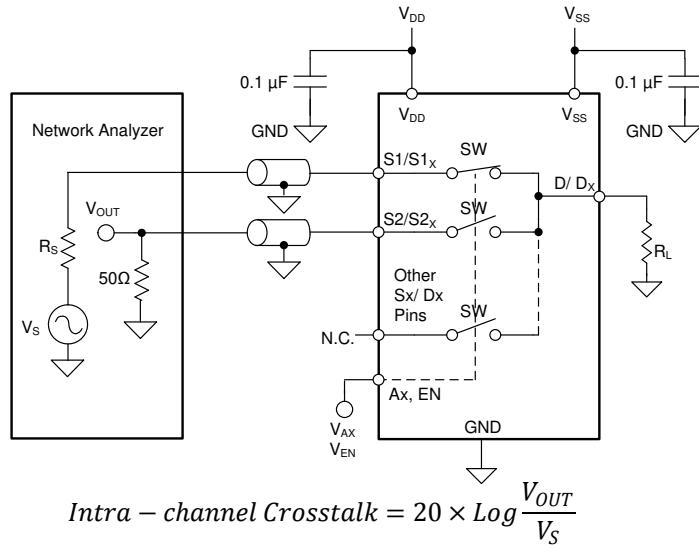

图 8-9. Intra-channel Crosstalk Measurement Setup
1. Intra-channel crosstalk ($X_{TALK(INTER)}$): the voltage at the source pin (Sx) of an off-switch input when a signal is applied at the source pin of an on-switch input in the same channel, as shown in 图 8-9 .